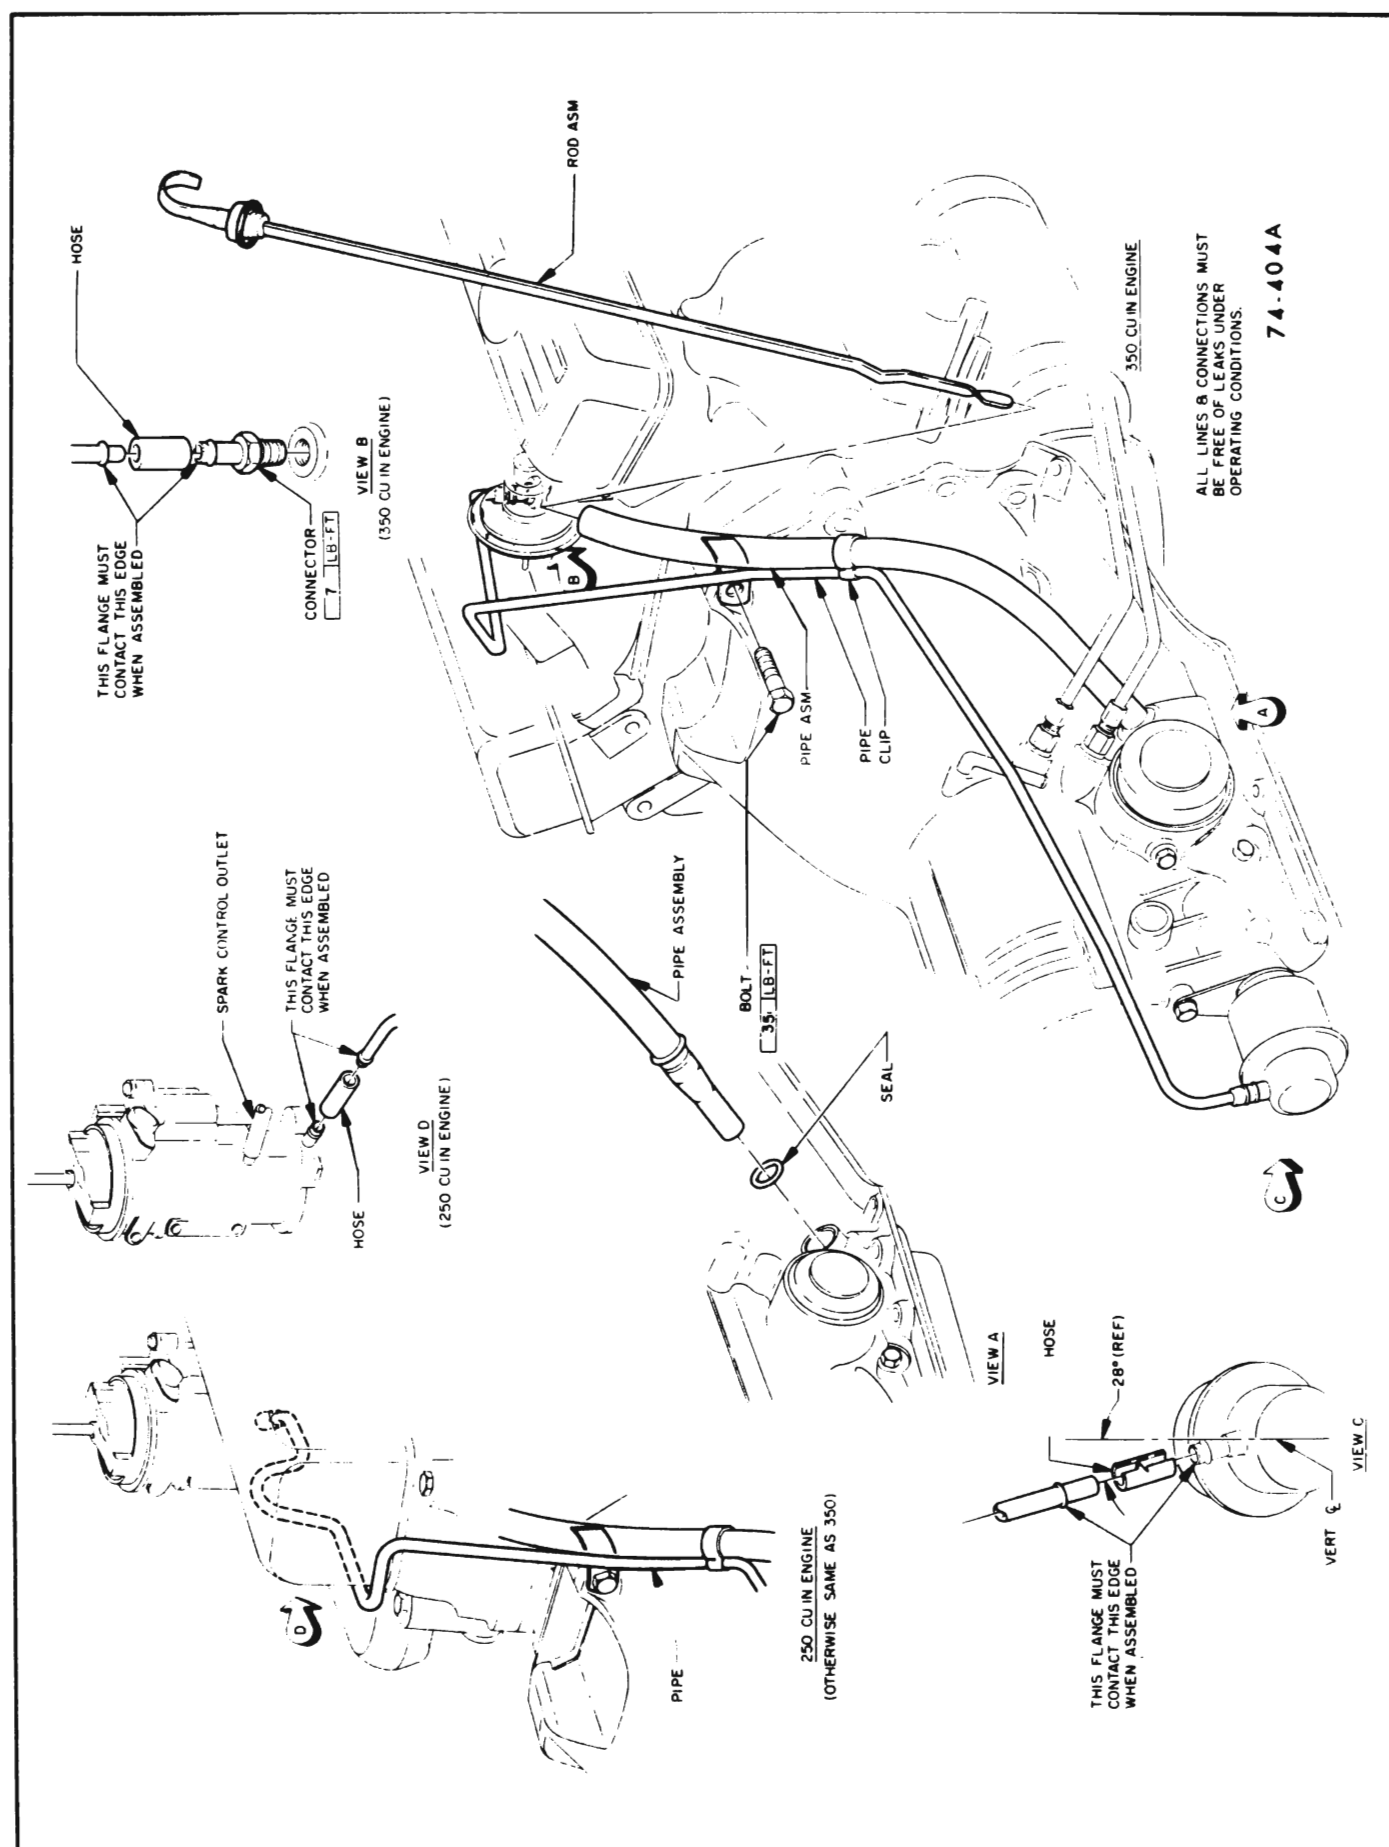

Figure 74-100 - Vacuum Line and Oil Filler Pipe
5. Remove vacuum line from vacuum modulator. See Figure 74-100.
11. Disconnect transmission filler pipe at engine. Remove filler pipe from transmission. See Figure 74-100.
12. Install vacuum line to vacuum modulator. See Figure 74-100.